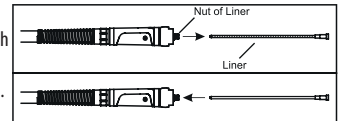

Figure 14: Removal and Installation of Spiral
- After inserting the new spiral into the torch, install and firmly tighten the spiral nut (Figure 14).